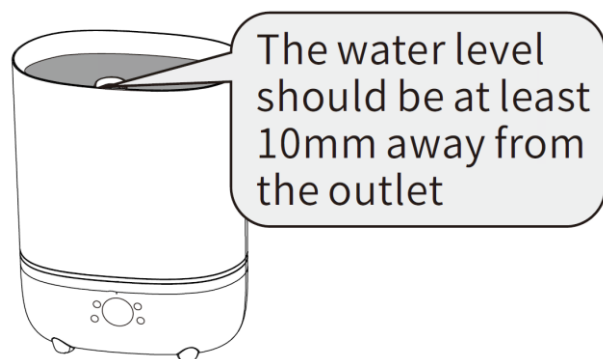

Fig. 4
3. Don't pour the water above max water level which is indicated on the mist outlet tube inside the water tank (distance between water and mist outlet should be at least 10mm) (fig. 4)